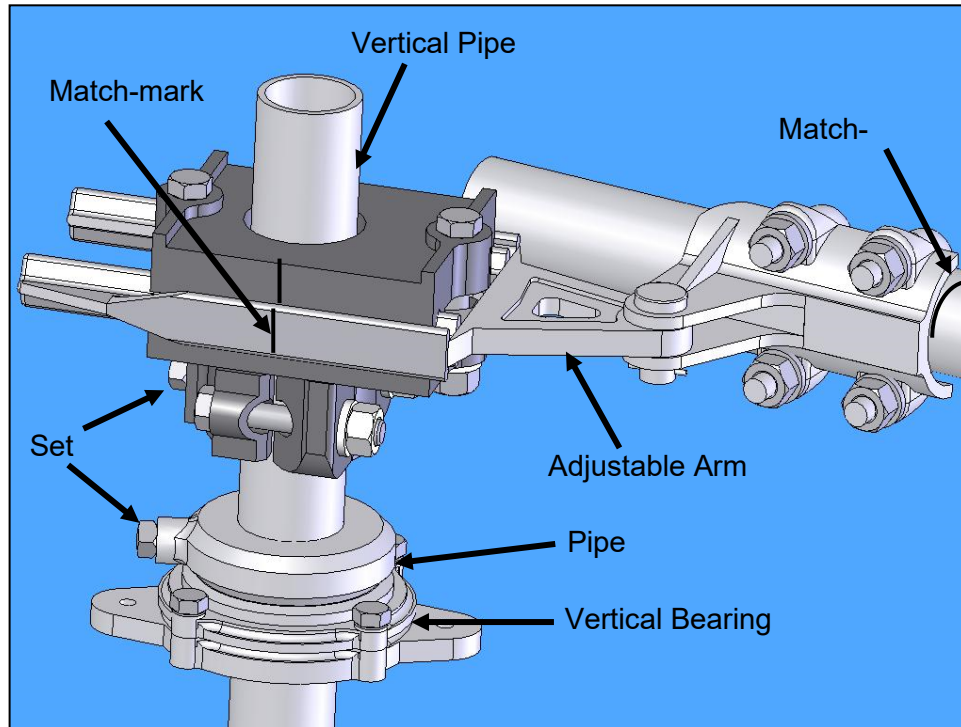

Figure 14: Typical Operating Arrangement
⚠ CAUTION The pipe collar (above the vertical bearing) must support the entire weight of the vertical operating pipe. To prevent unnecessary component damage, **do not allow the pipe to rest on the switch operating device**. Refer to **Figure 14**.
5. After mounting all op-mech components, match-mark all clevis connections, the adjustable arm, and the switch operating devices' coupling, so that any slippage occurring during trial operations can be readily detected. Refer to **Figure 14**.